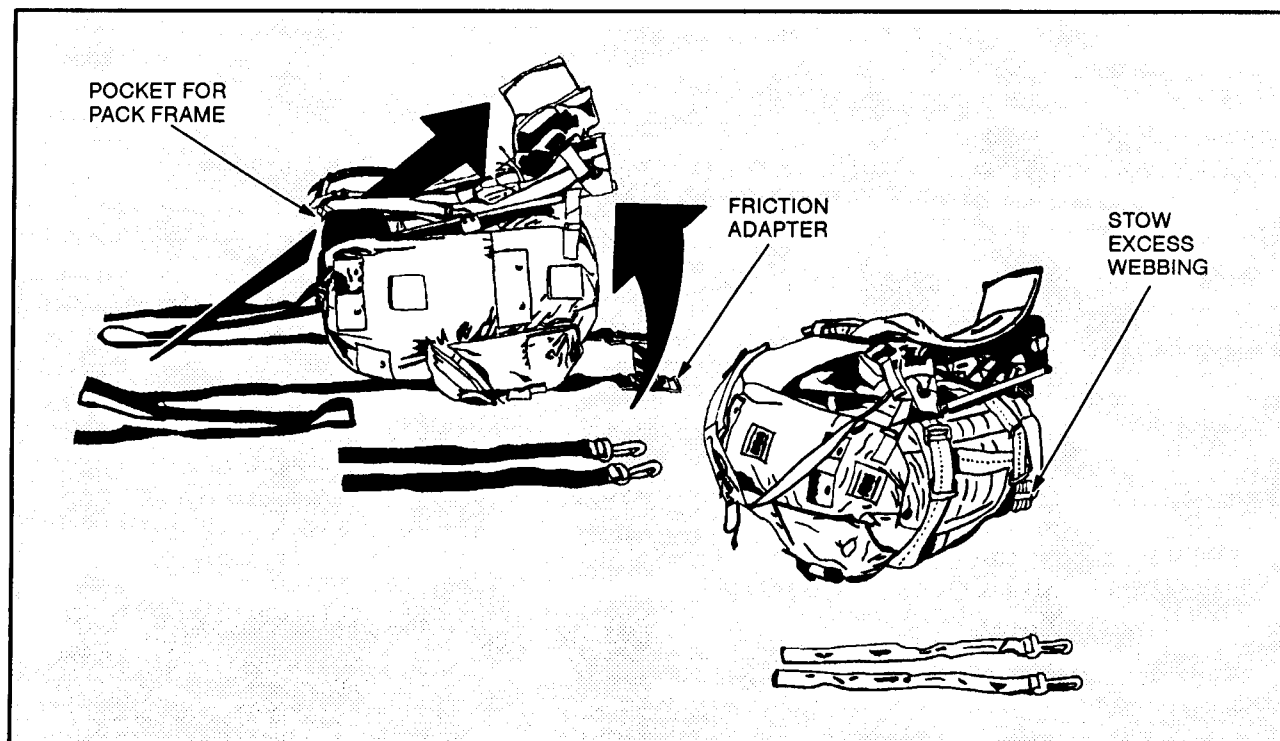

Figure 4-24. The combat pack and frame rigged with the modified H-harness.
- Turns the pack upside down. He places the modified H-harness on the pack ensuring the cross straps are to the top of the pack and the friction adapters are touching (or near) the bottom of the frame (Figure 4-24).